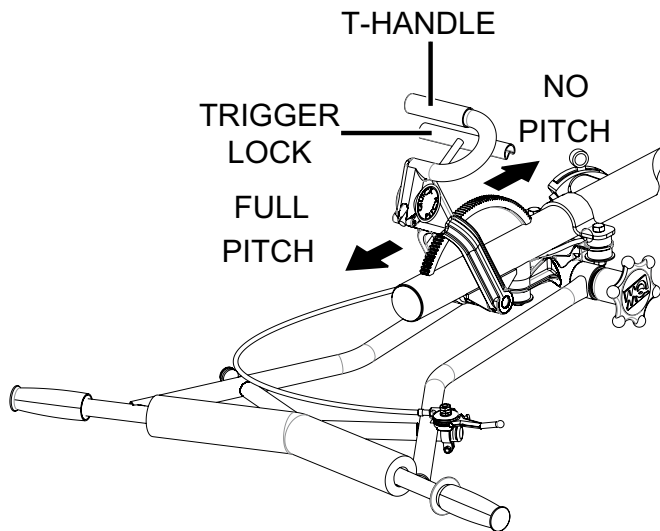

Figure 6. Adjusting Cable Blade Pitch (Quick-Pitch™ Handle)
2. For trowels equipped with a **Quick Pitch™ T-handle** (QXHC), simply squeeze the trigger lock and push the **T-handle** towards the engine to pitch the blades downward. Pushing the **T-handle** towards the engine will cause the blades to lay flat (Figure 6). This will release the tension on the blade pitch cable.